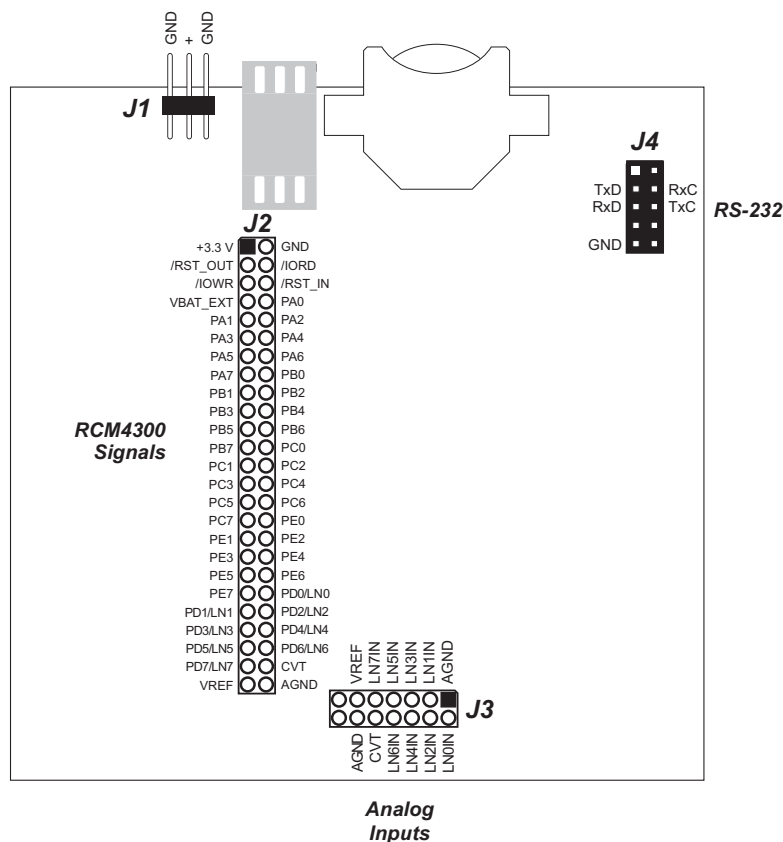

Figure B-4. Prototyping Board Pinout
- **Module Extension Header**—The complete pin set of the RCM4300 module is duplicated at header J2. Developers can solder wires directly into the appropriate holes, or, for more flexible development, a 2 × 25 header strip with a 0.1" pitch can be soldered into place. See Figure B-4 for the header pinouts.
- **Analog Inputs Header**—The Prototyping Board's analog signals are presented at header J3. These analog signals are connected via attenuator/filter circuits on the Prototyping Board to the corresponding analog inputs on the RCM4300 module. Developers can solder wires directly into the appropriate holes, or, for more flexible development, a 2 × 7 header strip with a 0.1" pitch can be soldered into place. See Figure B-4 for the header pinouts.
The Prototyping Board provides the user with RCM4300 connection points brought out conveniently to labeled points at header J2 on the Prototyping Board. Although header J2 is unstuffed, a 2×25 header is included in the bag of parts. RS-232 signals (Serial Ports C and D) are available on header J4. A header strip at J4 allows you to connect a ribbon cable, and a ribbon cable to DB9 connector is included with the Development Kit. The pinouts for these locations are shown in Figure B-4.